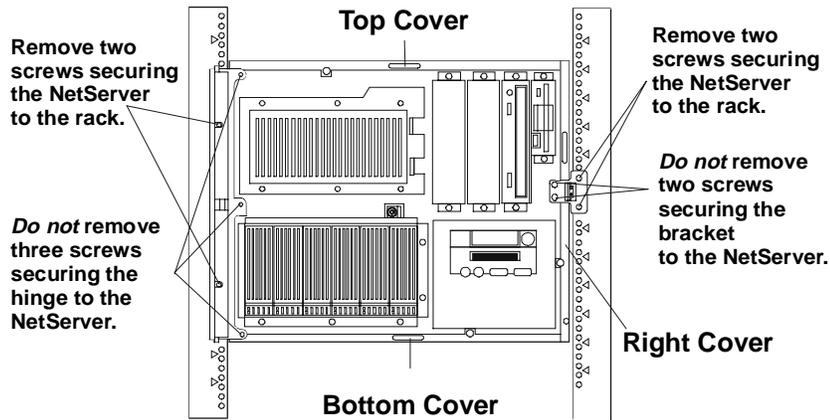

Figure 3-3. Front of LH 6000r - Screw and Cover Locations
3. Do not unscrew the entire hinge or bracket from the NetServer. Use a Torx 25 screwdriver to remove only the four outer screws so that the hinge and the bracket remain attached to the NetServer chassis as shown in Figure 3-3.